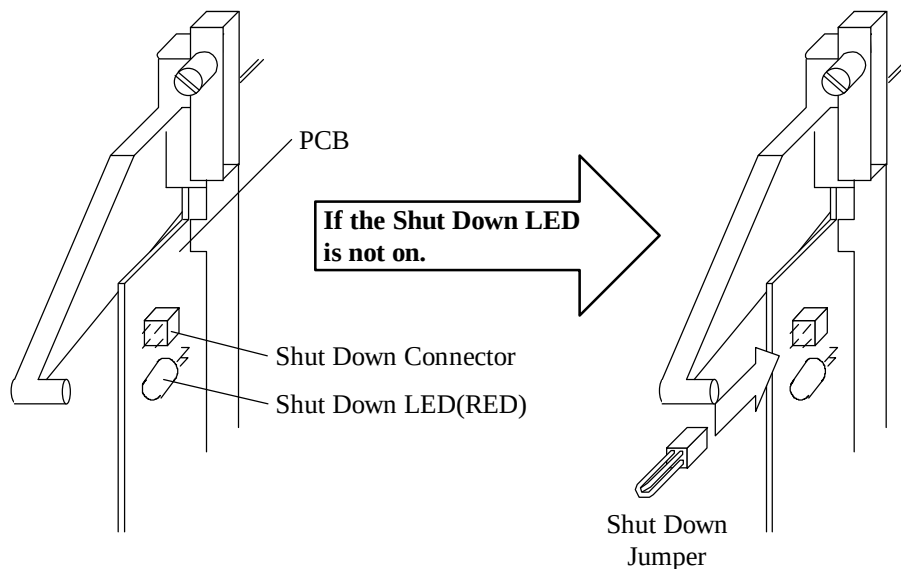

Fig. 4.7.6-1 Shut Down LED
- a. Confirm that Shut Down LED is on.(Fig. 4.7.6-1). If the LED is not on, connect the Shut Down Jumper to the Shut Down Connector.
- a. Remove the Bracket③ and the Strain Relief② referring to Fig. 4.7.6-2.